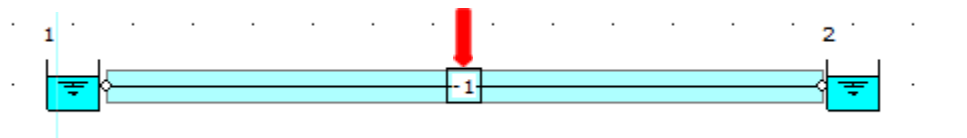

Figure 15: Highlighted Pipe.
- Let us now edit the default pipe data by selecting pipe number -1. You should now see that pipe number -1 is highlighted on the flowsheet (Figure 15).